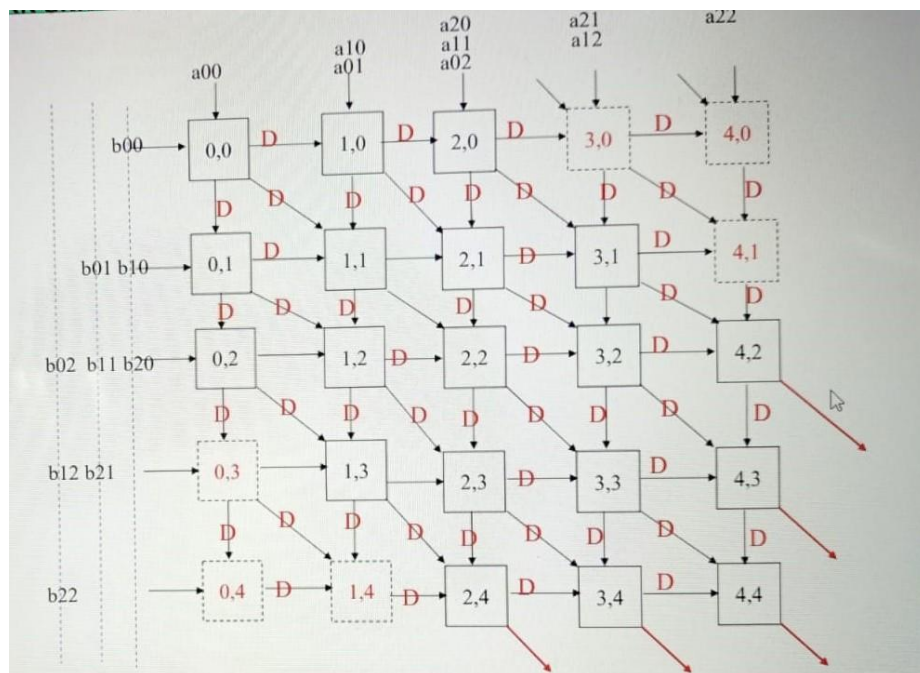

Figure 2a: Inputs given at regular clock pulses.
AS2 architecture has three inputs(horizontal, vertical, diagonal) and three outputs(horizontal, vertical, diagonal). It's helpful to find matrix multiplication and convolution. To obtain the result precisely, the vertical input of the first row PE is always set to zero. Firstly, the processing element(PE) for this architecture is designed. The systolic array receives inputs in the manner depicted in Figure 2a. Using this PE, a systolic array for a 2*2 matrix(i.e. multiplication of two different 2*2 arrays – a and b) is been designed and thus the 2*2 matrix can be scaled to find the convolution of the m*n array. A hexagonal systolic array is designed for this architecture. Seven PE is required for a 2*2 array and thus it can be expanded to an m*n matrix and can be used for convolution. Since the 2*2 matrix is been created, we need only seven PE(let's say PE1(0,0), PE2(1,0), PE3(0,1), PE4(1,1), PE5(2,1), PE6(1,2), PE7(2,2) in the Figure 2a). The final matrix's elements come as output from the second clock pulse. All the final output matrix(let's say C matrix) elements will be delivered only in PE 4,5,6,7. At the third clock pulse C00 (at PE 7), C01 (at PE 6), and C10 (at PE 5) come as the output. And at the fourth clock pulse, we get C11(at PE 7). Thus every element of the final matrix C is been delivered within four clock pulses.